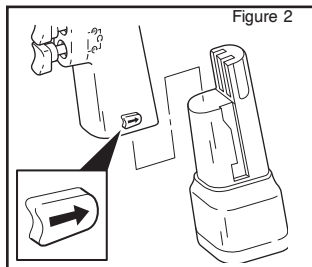

Figure 2
2. Slide the battery pack into the handpiece. When fully inserted, the latch will lock it in place. Figure 2.